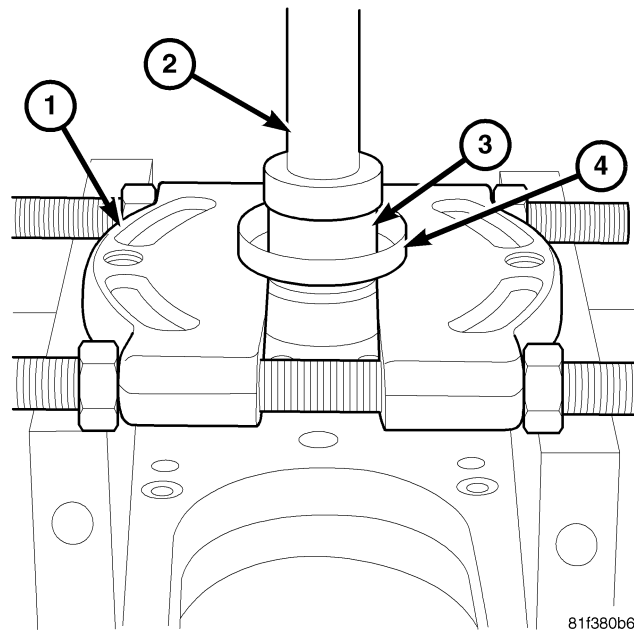

Fig. 5 PRESSING OFF OLD SLINGER
3. Using care not to damage the flange-to-pinion seal surface, press the flange from the slinger (Fig. 5).